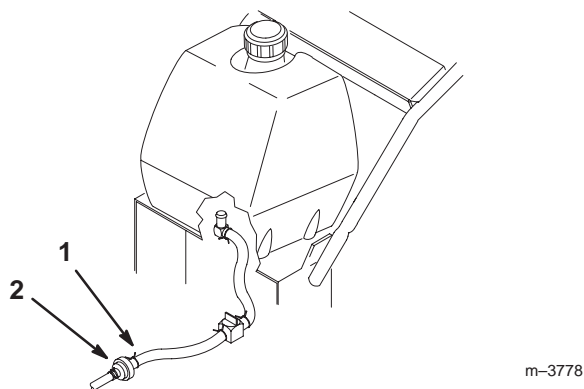

Figure 42
3. Squeeze the ends of the hose clamps together and slide them away from the filter (Fig. 42).